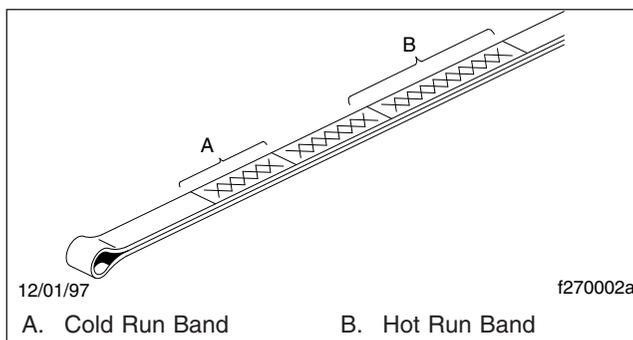

Fig. 10.9, Automatic Transmission Dipstick Markings
- 22.3 Wipe the dipstick clean and check the fluid level. A safe operating level is any level within the HOT run (upper) band on the dipstick. See **Fig. 10.9**.